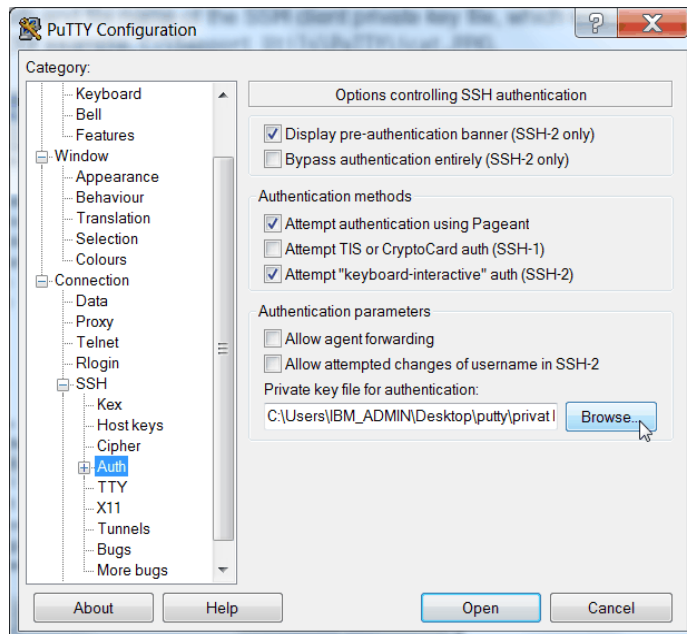

Figure A-15 SSH authentication
3. In the Category pane on the left, click **Connection** → **SSH** → **Auth**, as shown in Figure A-15. More options are displayed for controlling SSH authentication.